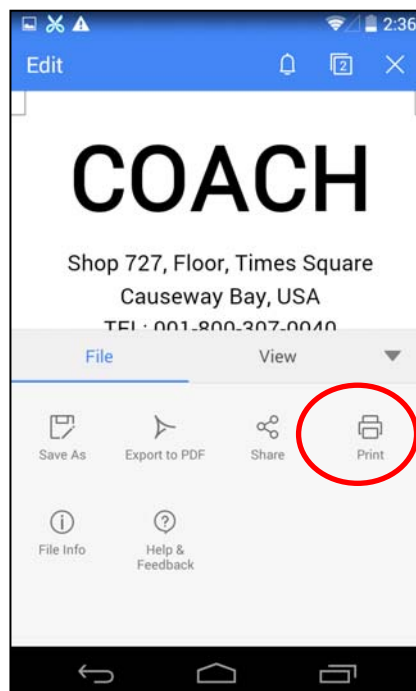

Figure 27
4.3 When the menu pops up, select “Print”, as shown in Figure 27.